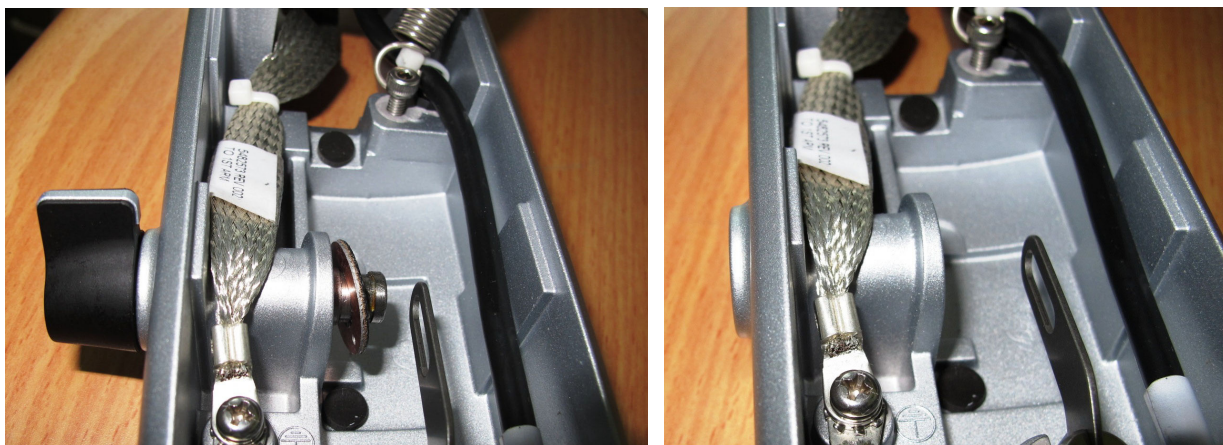

Figure 8-263 Removing the Locking Lever from the Locking Knob
- 6.) Carefully remove the locking lever from the locking knob and remove the washer - see Figure 8-263.